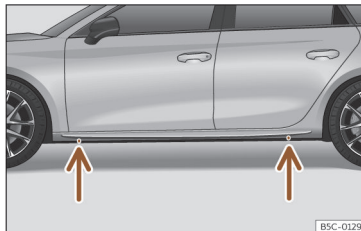

Fig. 42 Jack position points.
- Find the support point on the strut (sunken area) closest to the wheel to be changed >>> Fig. 42.